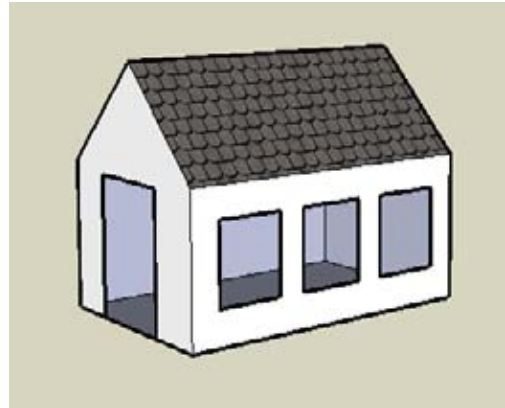

Figure 6-46
Consider the model of a house with a painted roof shown in Figure 6-46. All faces other than the tops of the roof have the default front and back colors.
1. Create a house like the one in Figure 6-46, whose walls have the default colors and a painted roof. Cut holes for windows so you can see the inside walls.